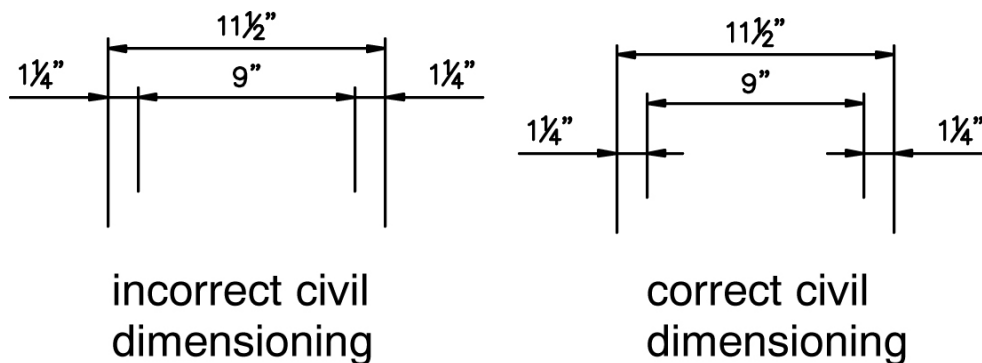

Figure 2—Civil Dimensioning
3. Dimensions shall be set such that the arrowheads do not overlap as shown in Figure 2.